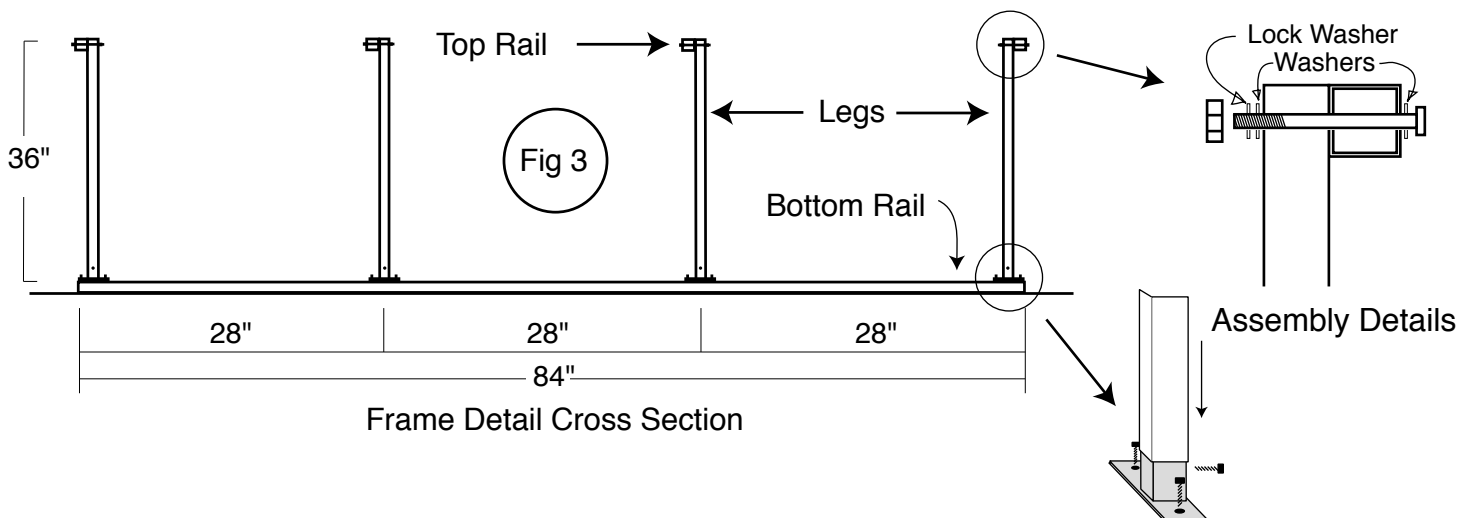

Fig 3
- 1) Layout bottom rails and tec screw brackets onto rails as per Fig 3
- 2) Insert legs over brackets and tec screw leg to bracket Fig 3.